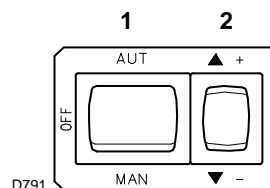
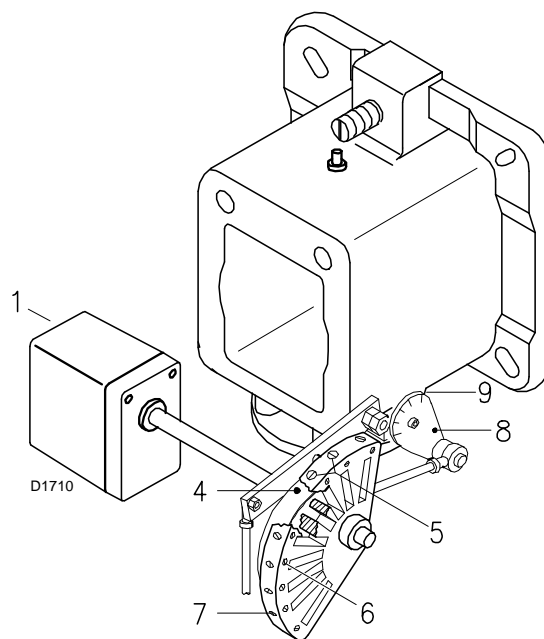
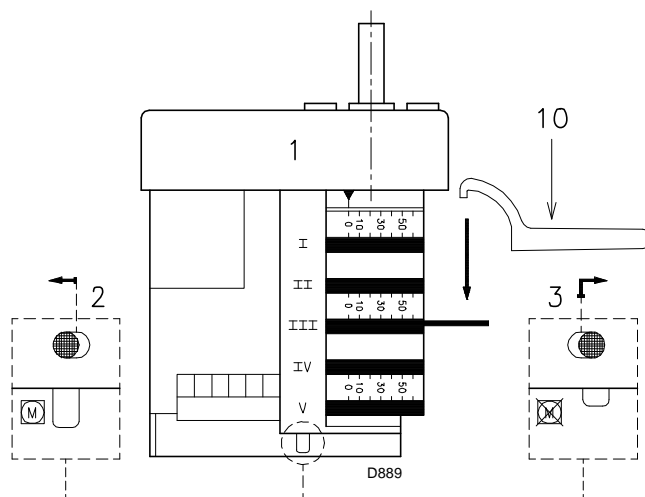

Fig. 36
Fig. 37
Fig. 38
Close the control devices and set switch 1)(Fig. 36) to "MAN".
In the above instructions we left the burner running in MIN. output operation. Now press button 2)(Fig. 36) "increase output" and keep it pressed until the servomotor has opened the air gate valve and the gas butterfly valve.
Progressively adjust the end profile of cam 4)(Fig. 37) by turning the screws 7).
Press button 2)(Fig. 36 at page 29) "output reduction" until the servomotor has closed the air gate valve and the gas butterfly valve to 30° (factory set adjustment).
- If this value is to be reduced, decrease the angle of cam III (Fig. 38) slightly by proceeding a little at a time until the angle is changed from 30° to 28° - 26°....
- If it has to be increased press the button "output increase" 2)(Fig. 36 at page 29) (i.e. open the gas butterfly valve by 10-15°), increase the cam III angle (Fig. 38) with small successive movements, i.e. take it from angle 30° to 32° - 34°... Then press the button "output decrease" until the servomotor is taken to the minimum opening position and measure the gas delivery.
- In order to adjust cam III, especially for fine movements, the key 10)(Fig. 38), held by a magnet under the servomotor, can be used.
Progressively adjust the starting profile of cam 4)(Fig. 37) by turning the screws 5).
Key Fig. 37
Press the key 2)(Fig. 36 at page 29) "output increase" a little so that the servomotor turns by about 15°.
- Switch off the burner using switch 1)(Fig. 36 at page 29), at OFF position;
- disengage the cam 4)(Fig. 37) from the servomotor, by pressing the button 3)(Fig. 38);
- Engage the cam 4) to the servomotor again by moving the button 2)(Fig. 38) to the left.
- Finally fix the adjustment by turning the screws 6)(Fig. 37).
Disengage the cam 4)(Fig. 37 at page 30) from the servomotor, by pressing and moving button 3)(Fig. 38) towards the right, and turn it backwards and forwards by hand to make sure it moves freely. Now engage the cam again by moving the button 2)(Fig. 38) to the left.